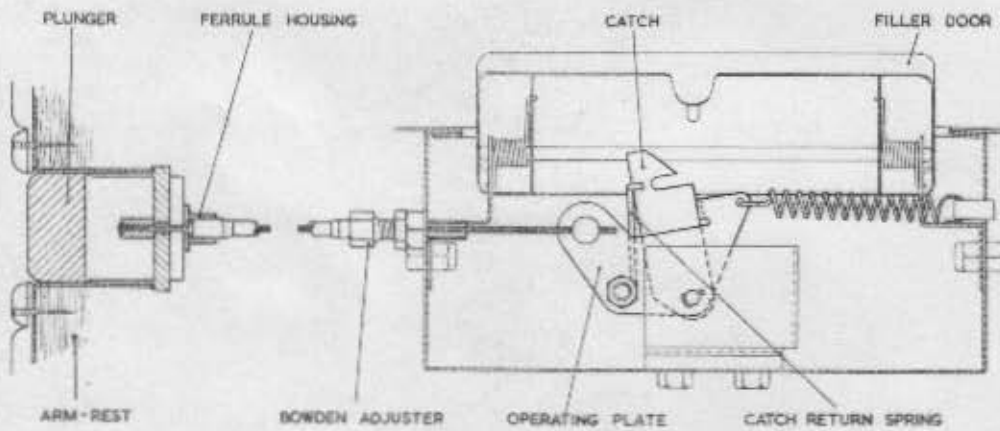
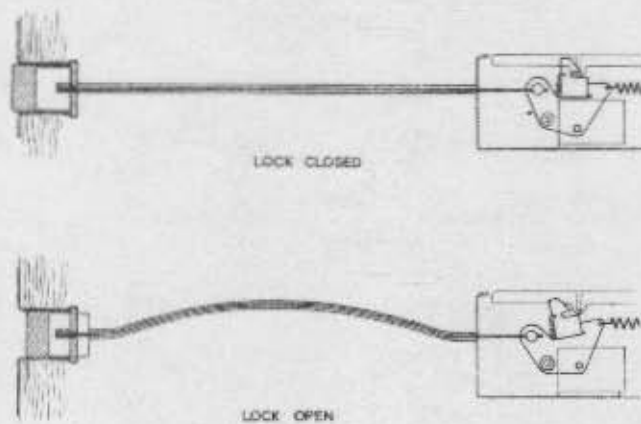

Fig.48. Petrol Filler Door Lock details.
Fig.49. Diagram of Lock operation.
1. Operate the push-button to open the petrol filler door, then working within the filler box, slacken the lock-nut and withdraw the operating cable from the clamp screw, see Fig.48.
A spring-loaded lid is fitted to the filler box and is held closed by a spring catch which is released through a "Bowden" cable unit operated remotely by a plunger assembly mounted in the left-hand arm-rest of type 401 cars, or on the left-hand side of the rear seat squab in type 402 cars. The door lock mechanism as installed in type 401 cars is illustrated in Fig.48. Operation of the mechanism is described herewith and should be read in conjunction with the diagrammatic illustration in Fig.49.